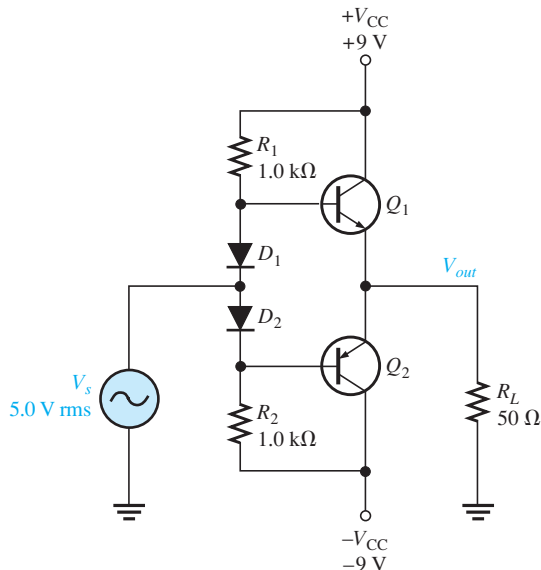

FIGURE 5-67
- Refer to the Class AB amplifier in Figure 5-67.
- Draw the load line for the *npn* transistor in Figure 5-67. Label the saturation current, $I_{C(sat)}$, and show the Q-point.